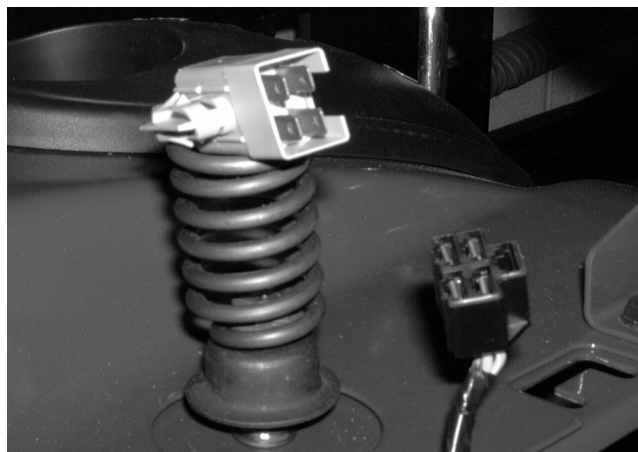

FIGURE 7.
- 6). Disconnect the wiring harness connector from the seat switch. See figure 7.